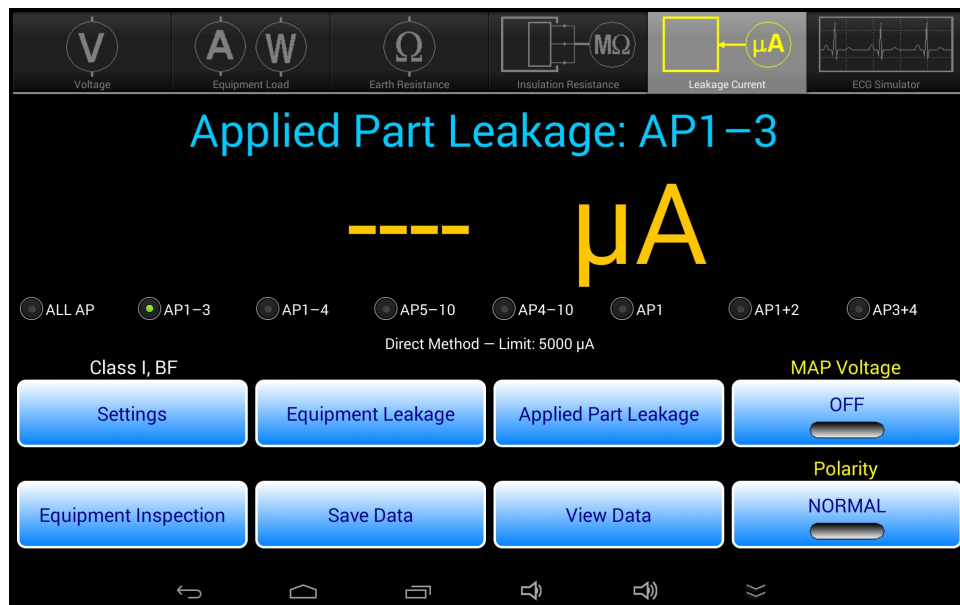

Figure 58 - Applied Part Leakage display.
Referring to the display screen shown in *Figure 58*, the **Applied Part Leakage** button may be used to enable testing of EUT patient leads or "Applied Parts" in various combinations or groups, according to the medical functions provided by the EUT. In this test, leakage is produced by applying an isolated AC voltage to the selected patient leads, where the voltage is equal to the mains supply.
The test setup is represented in the schematic of *Figure 59*, in which switches S_1 through S_5 correspond to the Applied Part (AP) radio buttons on the menu of *Figure 58*. Pressing the **Settings** button of *Figure 58* allows you to choose the Type of Applied Parts (BF or CF), which then affects the leakage limit that is indicated below the Applied Part radio buttons.
Press the **MAP Voltage** button on the display of *Figure 58* to initiate a leakage test of the selected Applied Parts. Leakage current is measured over three ranges (200, 2000 or 20000 μA full scale) while the test voltage is being applied, with the range being automatically selected by the vPad-623 app as required. This test may be performed with the mains polarity in either Normal condition or Reverse condition.